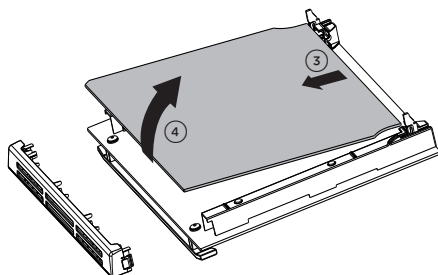

Fig. 4.15
- Gently lift and pull out the inner pane of glass by releasing it from the bottom retainers. Do not angle the pane too much as you may damage the glass (fig. 4.15).